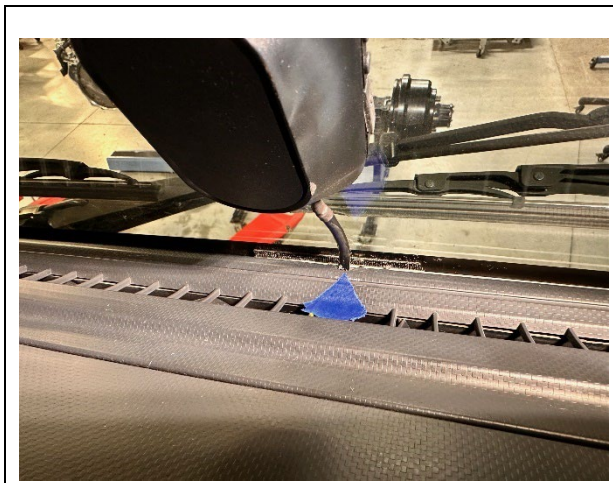

Figure 11
8. Using one (1) inch of masking tape, mark the location near the center of the instrument panel where the Mobileye camera cable goes under the instrument panel. (See Figure 11.)